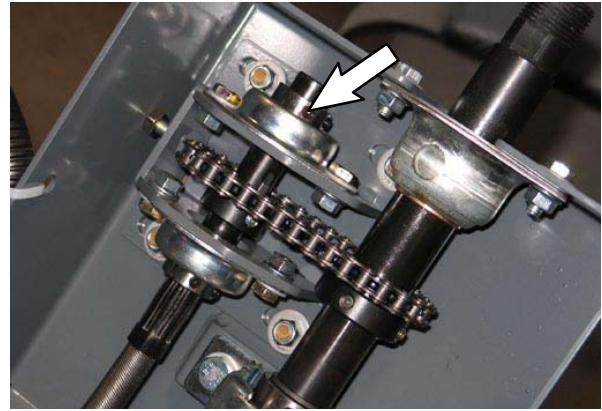
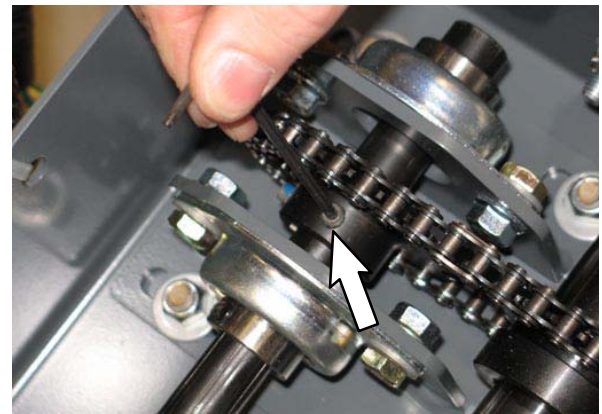
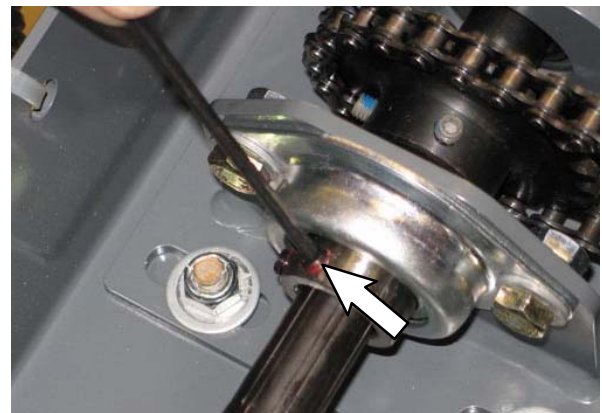

FIG. 32
FIG. 33
FIG. 34
30. Loosen the six set screws in the upper flange bearing, steering sprocket, and lower flange bearing. (Fig. 32 / Fig. 33 / Fig. 34)